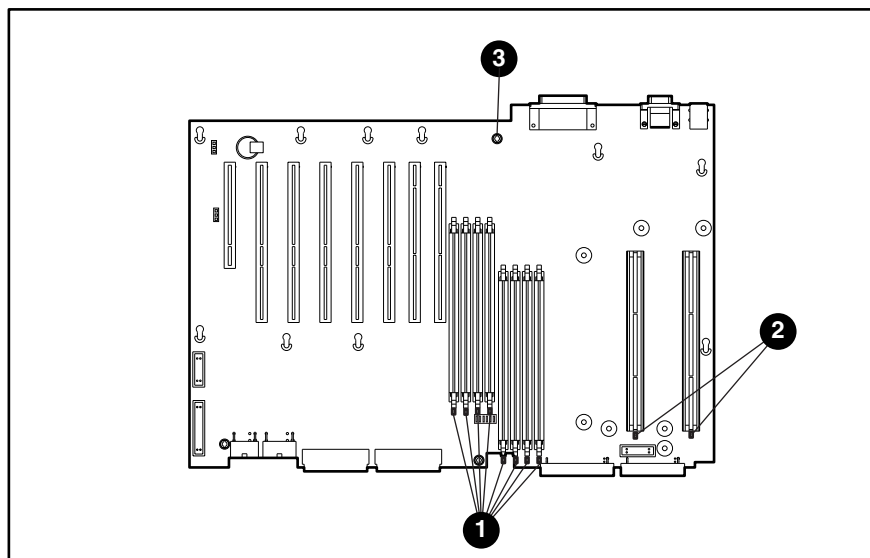

Figure 4-6. Critical system diagnostic and system board status LED indicators
The critical system status LED on the front panel indicates the condition of both the memory modules (DIMMs) and processors. The memory module (DIMM) ❶ and processor ❷ diagnostic LEDs are located on the system board, as shown in Figure 4-6.
Figure 4-6 shows the DIMM diagnostic LED ❶ locations in Compaq ProLiant ML530 servers. Table 4-5 lists the corresponding DIMM diagnostic LED conditions. To replace a DIMM, see “Memory Modules” in Chapter 2. The color of the status and diagnostic LEDs will reset when the DIMM is replaced and system power is restored.
Figure 4-6 shows the processor diagnostic LEDs ❷ for Compaq ProLiant ML530 servers. Table 4-6 lists the corresponding processor diagnostic LED conditions. To replace a processor, see “Processors” in Chapter 2. The diagnostic LED color will reset when the processor is replaced and the system power is restored.